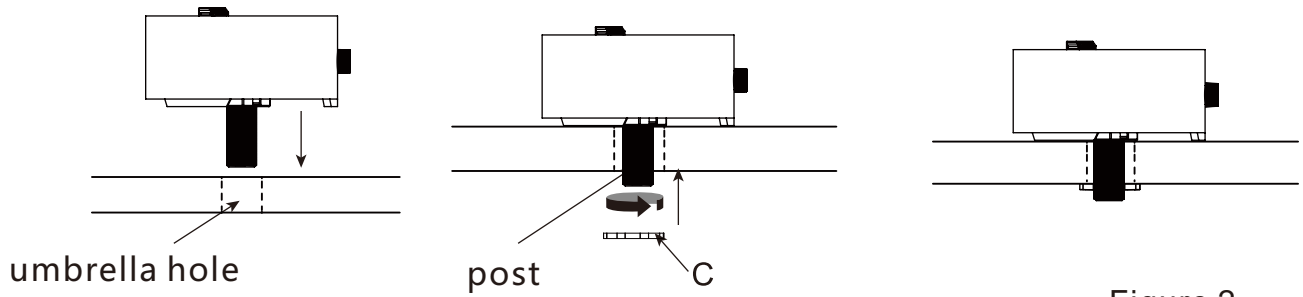

Figure 2
3. Remove the fixture fastener (C) from the firepit. Attach the firepit by aligning the post through the umbrella hole, then tighten the fixture fastener (C) clockwise (see Figure 2).